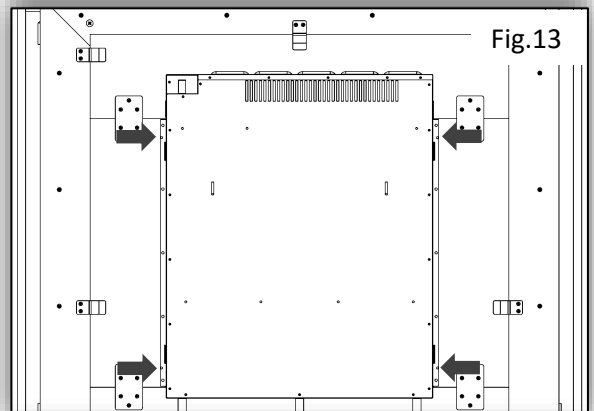

Fig.13
14. Once the Fire (J) is positioned in the correct finished position. Mark the centre of the screw points for the 4x fixing positions. Fig.13.
15. Lift the Fire (J) off the fire supports and using a 2mm drill bit, drill **6mm deep** pilot holes at the pre-marked points.
16. The Fire (J) can now be lifted back in to position and centralised. Working from the top, screw the Fire (J) securely in place with the 4x 16mm Dome head Screws (F) provided. Fig. 13 & 14.
17. The installation of the Fire (J) in the Suite is now complete. To install the built-up Suite in the desired position in the room, please follow the 'Installing the Suite instructions' on Page 6.